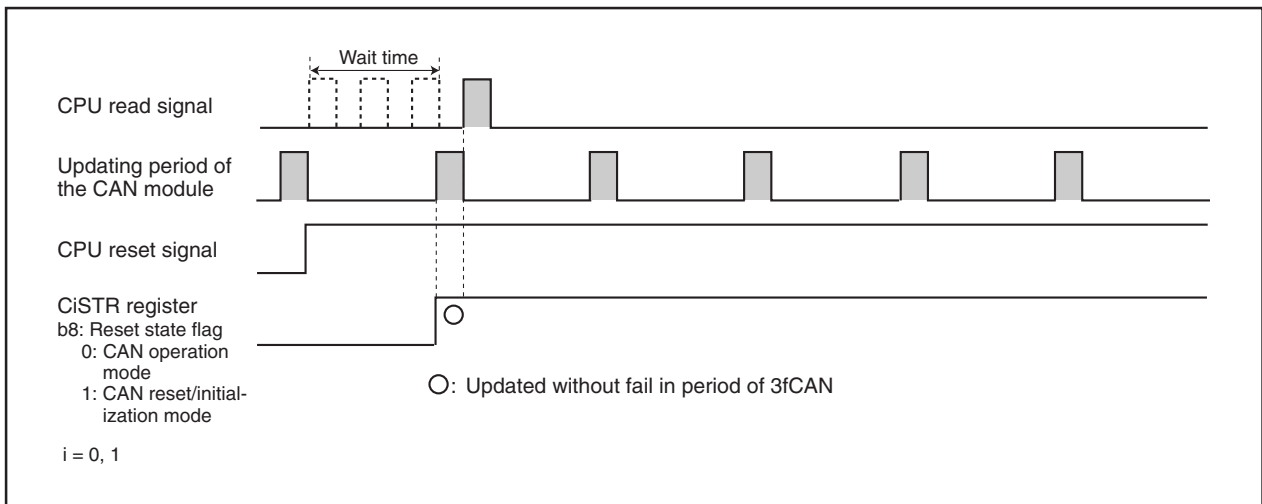

Figure 23.6 With a Wait Time of 3fCAN Before CPU Read
- (a) There should be a wait time of $3f_{CAN}$ or longer (see **Table 23.3 CAN Module Status Updating Period**) before the CPU reads the CiSTR register. (See **Figure 23.6 With a Wait Time of $3f_{CAN}$ Before CPU Read.**)